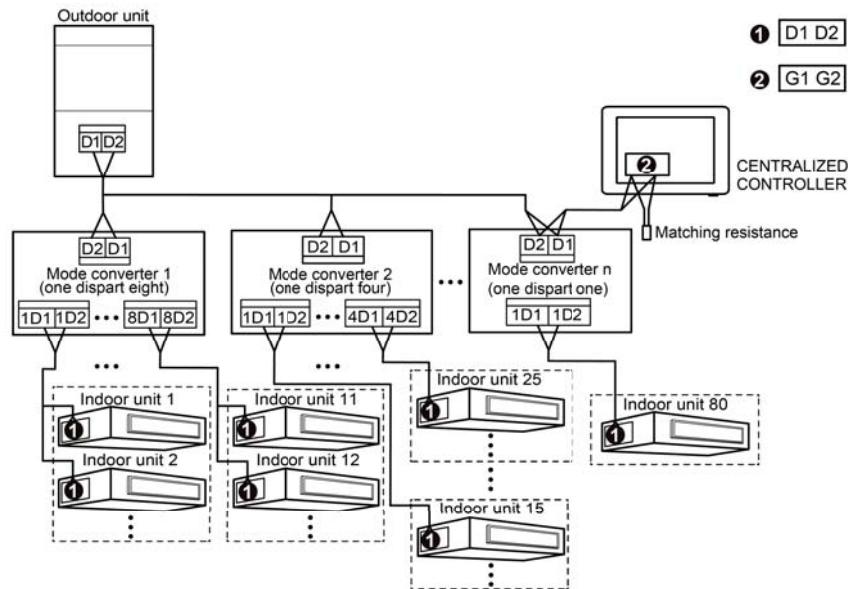

Fig. 3.6 Centralized controller connects to network of heat recovery mode converter
- (4) The centralized control address dial code (SA2_Addr-CC) is the centralized control address when centralized control is required between different refrigeration systems; and the factory default setting is "00000".
- (5) When the centralized controller is connected to the heat recovery network, connect the network as shown in Figure 3.6. Method 2 is also applicable to the centralized controller connected to the heat recovery network.